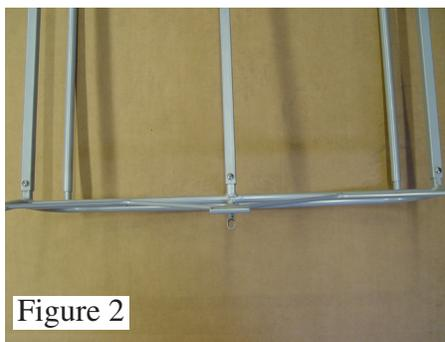

Figure 2
2. Place the front, center and rear rails on the end rail and secure using three 10x32 screws with lock washers (See Figure 2, **do not tighten at this time**).